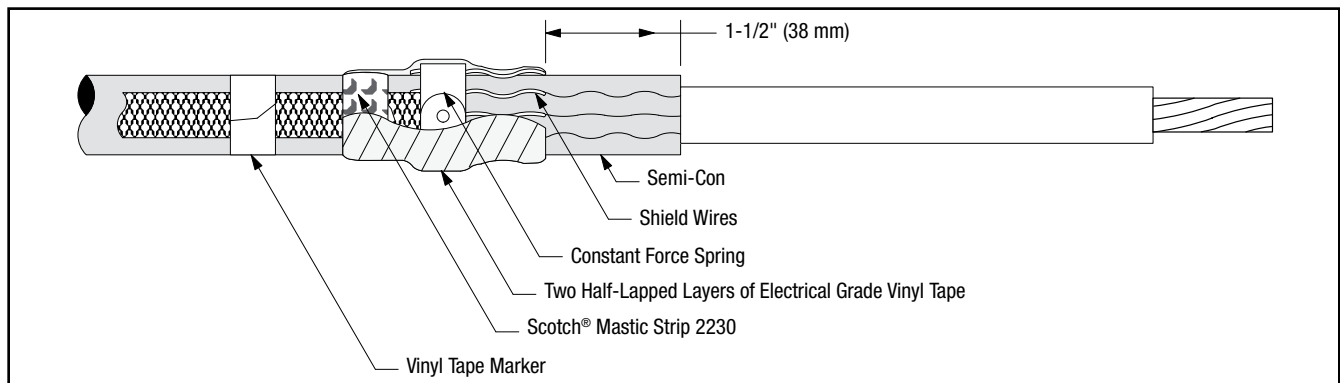

Figure 22
13.5 Wrap two highly stretched half-lapped layers of electrical grade vinyl tape around mastic seal, constant force spring and exposed shield wires (Figure 22).